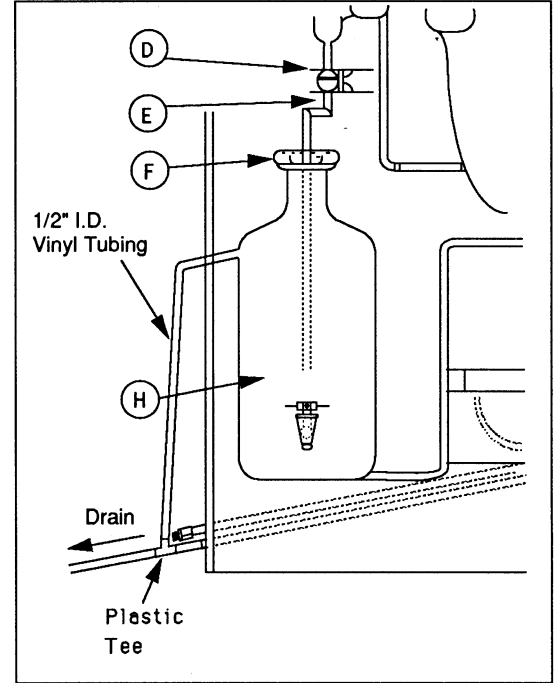

Figure 5-2. Drain
2. Locate plastic tee (1/2 x 1/2 x 1/2) and 20" length of 1/2" vinyl tubing in parts box. Connect to bottle overflow tubing and drain as shown in Figure 5-2.